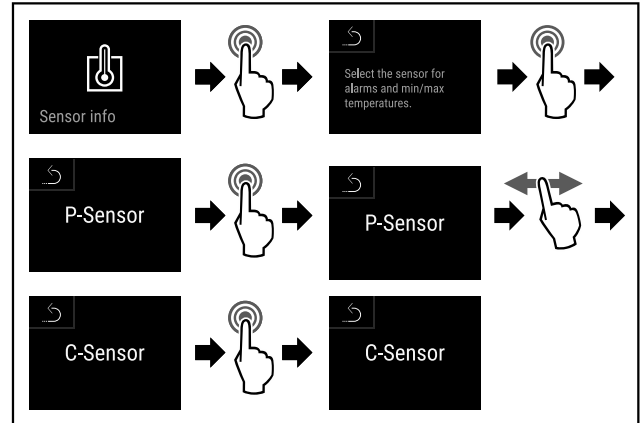

Fig. 173
- ▶ Complete steps (see Fig. 173) .